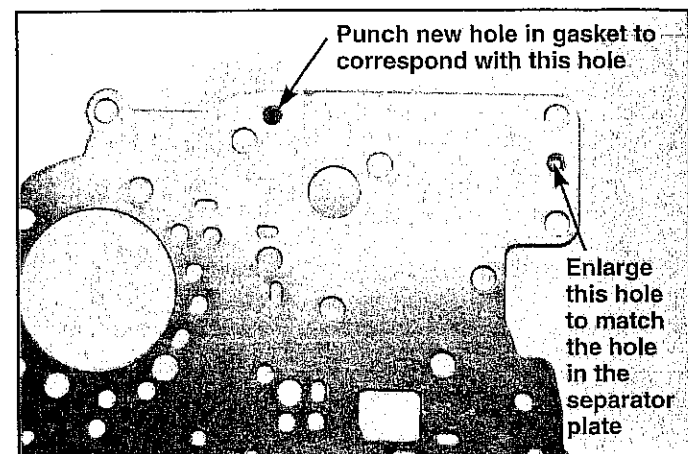

FIGURE 56
STEP 32. Position both valve body gaskets against the correct separator plate. Note that there are two holes in the separator plate that do not have correct holes punched in the gaskets. (See Fig. 56) Enlarge the one hole and punch the other hole in the gaskets to the same size as the separator plate.